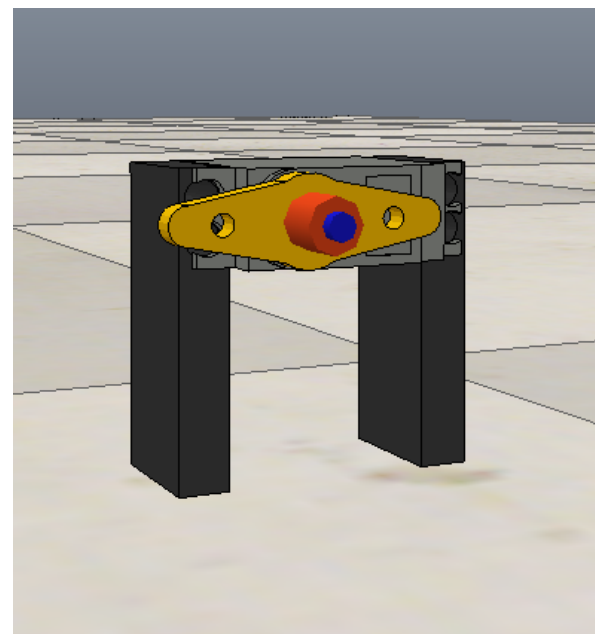

Figure 4: Placement of revolute joint between servo motor and fin.
- As an example, refer Figure 4 to understand the **need of ACTIVE revolute joint between servo and servo_fin**.